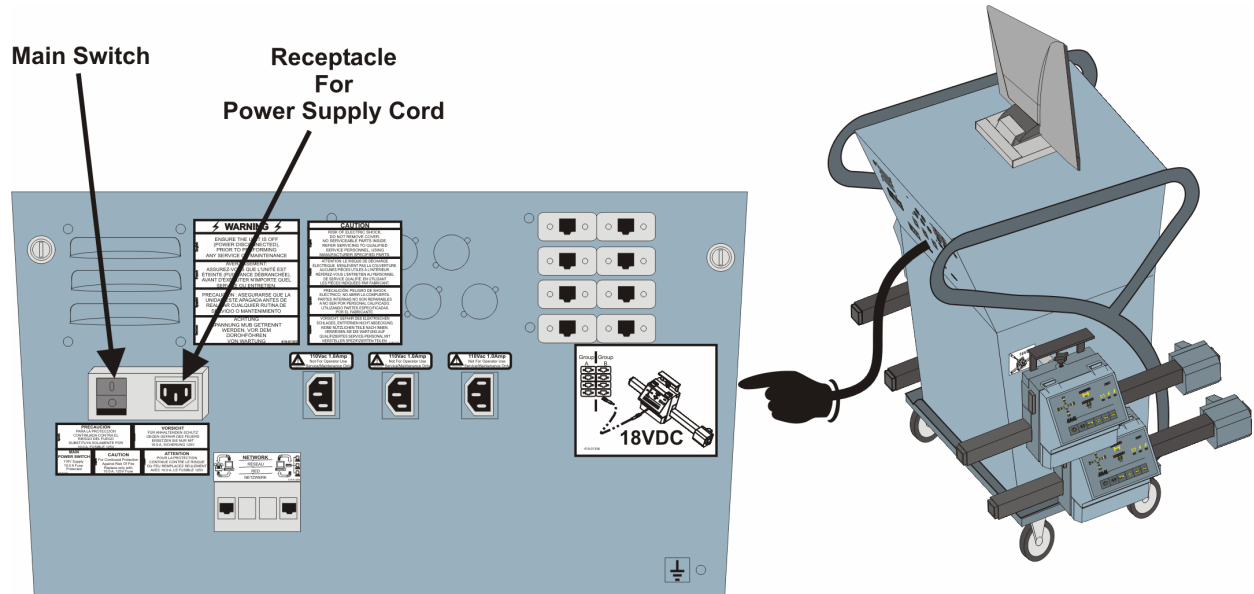

Figure 3-5. Main Power Connection
- 3.2.1 Locate the main power cord for the unit, and if it is not already plugged in, plug it in. Refer to Figure 3-5.